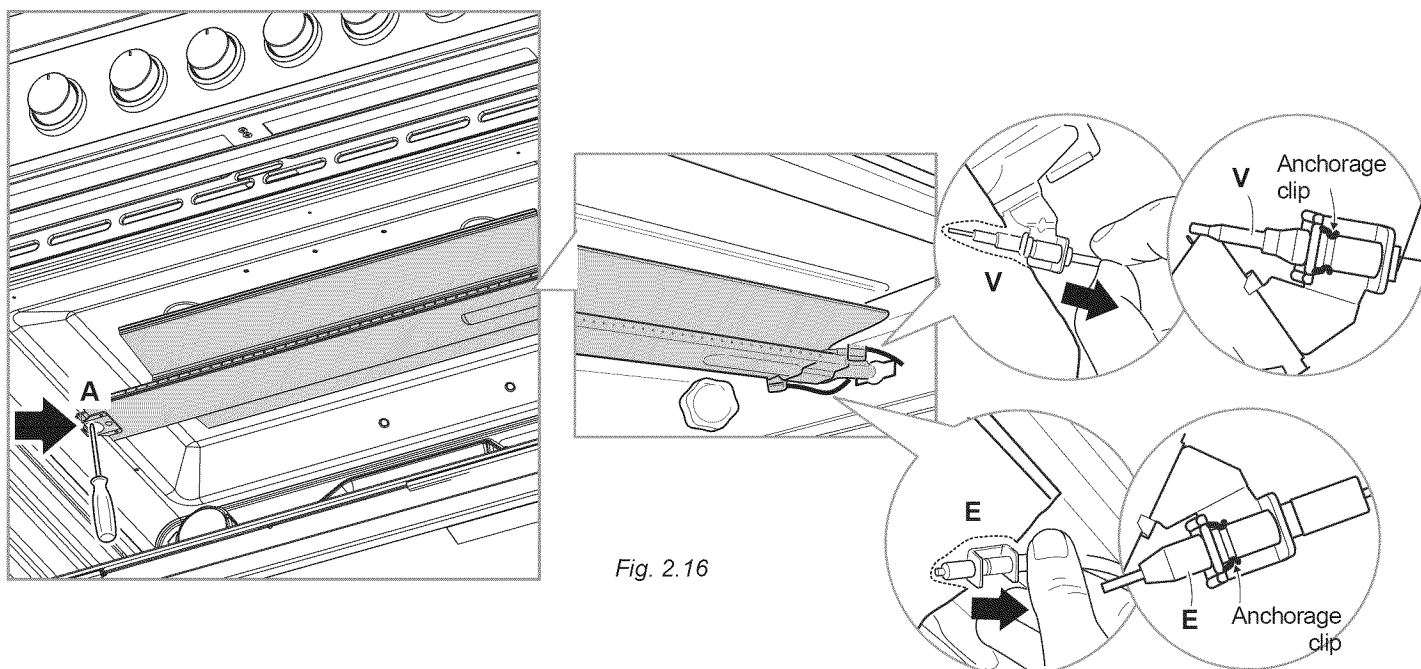

Fig. 2.16
- Gently unlock, from the burner, the safety valve probe "V" and the ignition electrode "E" (as indicated in fig. 2.16). Take care not to damage the probe and the ignition electrode.
- Unscrew and remove the burner securing screw "A" (fig. 2.16).
IMPORTANT: Pay special attention to replace correctly the safety valve probe "V" and the ignition electrode "E" as per figure 2.16. Check the correct operation of the safety valve and the ignition electrode.